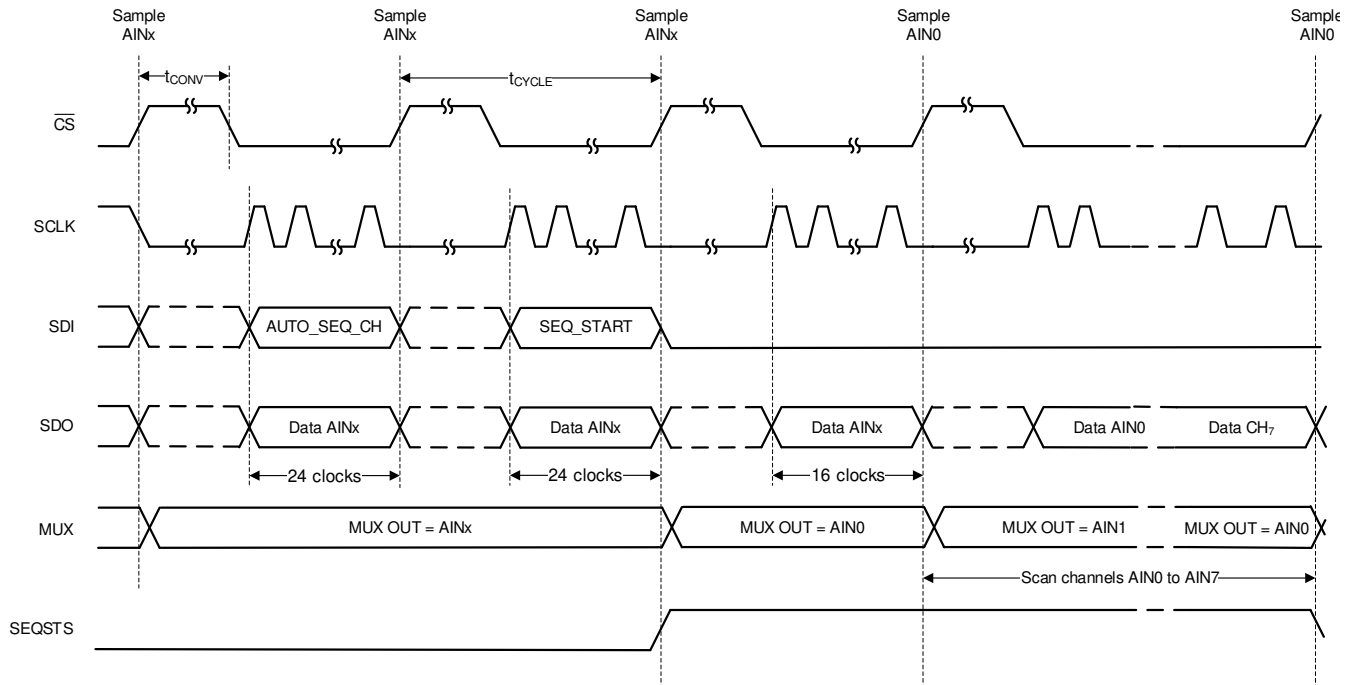
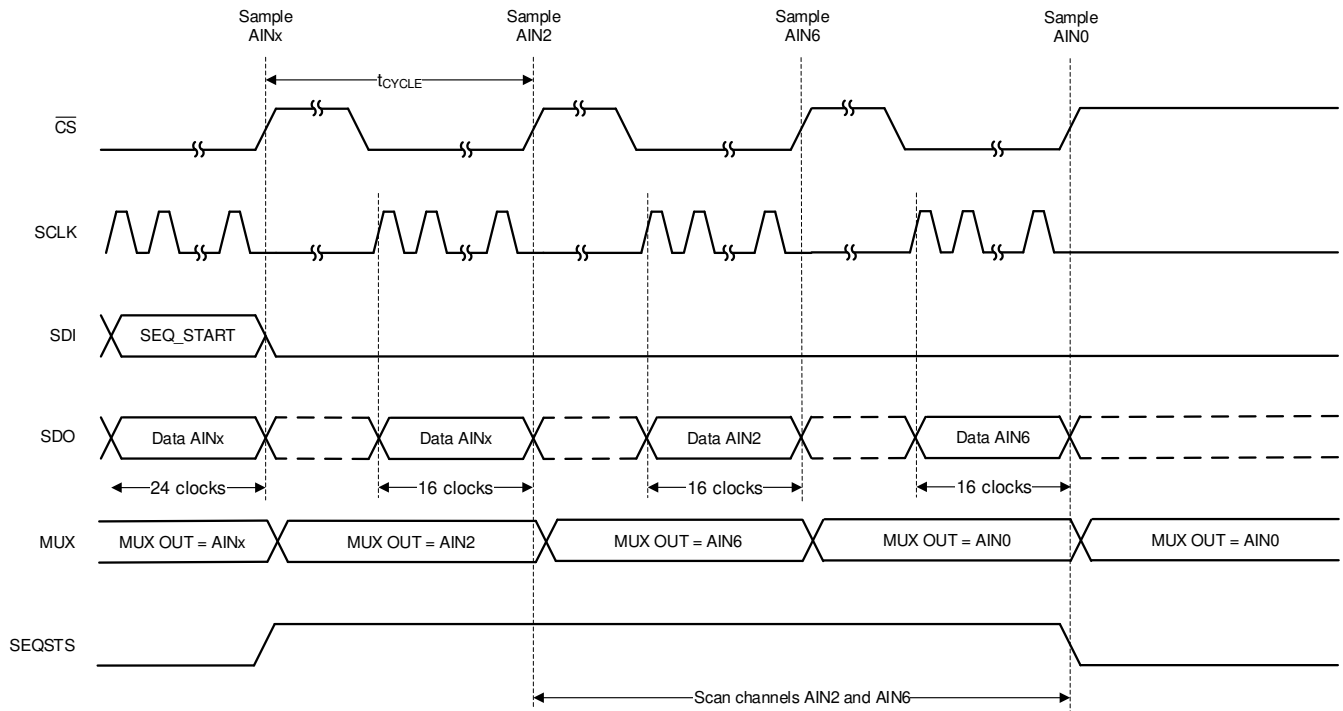

Figure 6-14. Starting a Sequence in Auto Sequence Mode
Figure 6-15. Example: Scanning Channels 2 and 6 in Auto Sequence Mode
In auto sequence mode, the internal channel sequencer selectively scans channels from AIN0 through AIN7 in ascending order. To select auto sequence mode, configure SEQ_MODE to 10b in the DEVICE_CFG register using a 3-byte register access. Enable one or more channels among AIN[7:0] by configuring the AUTO_SEQ_CFG1 register. By default all analog input channels are enabled. After enabling the desired channels, start the sequence by setting SEQ_START to 1b. The ADC auto-increments through the enabled channels after every $\overline{CS}$ rising edge. Configure SEQSTS_CFG bit to 1b in SDO_CNTL4 register to indicate sequence status on SDO-1/SEQSTS pin. When SEQ_START is set to 1b, the SDO-1/SEQSTS pin is at logic 1 as shown in Figure 6-14 until the last channel conversion frame is complete. After the last enabled channel conversion is complete, channel AIN0 is selected and SDO-1/SEQSTS is in a high-impedance state.
As an example, Figure 6-15 depicts a timing diagram for when the device is scanning AIN2 and AIN6 in auto sequence mode. When AIN6 is converted, SDO-1/SEQSTS is Hi-Z and AIN0 is selected as the active channel. At the end of sequence, if more conversion frames are launched the device returns valid data corresponding to AIN0.
- Configure the AUTO_SEQ_CFG1 register. In Figure 6-15, AUTO_SEQ_CFG1 = 0x44.
After configuring the channel scanning order, start index, and stop index, initiate the scanning by setting the SEQ_START bit to 1b. The ADC scans through the enabled channels after every $\overline{CS}$ rising edge as defined by the channel scanning order. When SEQ_START is set to 1b, the SDO-1/SEQSTS pin is pulled high until the last channel conversion frame is complete, as described in Figure 6-14. As illustrated in Figure 6-15, channel AIN0 is selected and SEQSTS/SDO-1 goes to Hi-Z after the last enabled channel conversion is complete.
As an example, Figure 6-15 provides a timing diagram for when the channel configuration is set as in Table 6-5. When AIN6 is converted, SEQSTS/SDO-1 goes to Hi-Z and AIN0 is selected as the active channel. If more conversion frames are launched at the end of the sequence, the device returns valid data corresponding to AIN0.
- Configure the CCS_START_INDEX and the CCS_END_INDEX registers. In Figure 6-15, CCS_START_INDEX = 0 and CCS_STOP_INDEX = 1.
- Configure the CCS_SEQ_LOOP register to 1 to indefinitely loop the sequence. In Figure 6-15, the CCS_SEQ_LOOP register = 0b.